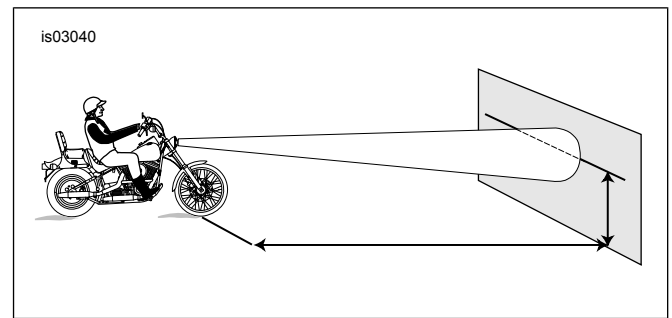

Figure 4. Headlamp Alignment
- See Figure 4. Position motorcycle 7.6 m (25 ft) away from a screen or wall. Measure the vertical distance from center of headlamp to floor, and draw a horizontal line on screen or wall at same height above floor.